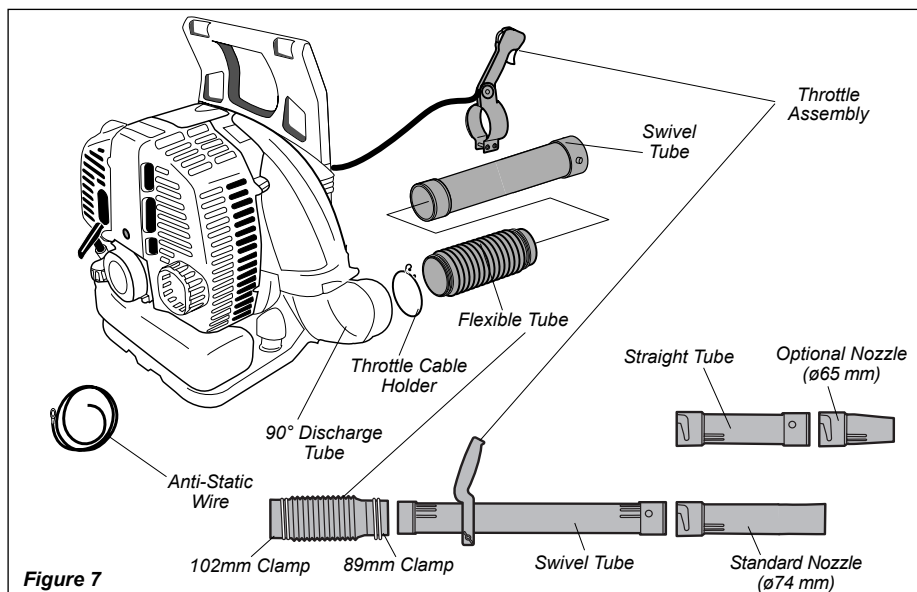

Figure 7
1. Place the blower upright on the ground or a sturdy work surface and note parts orientation as shown in Figure 7.